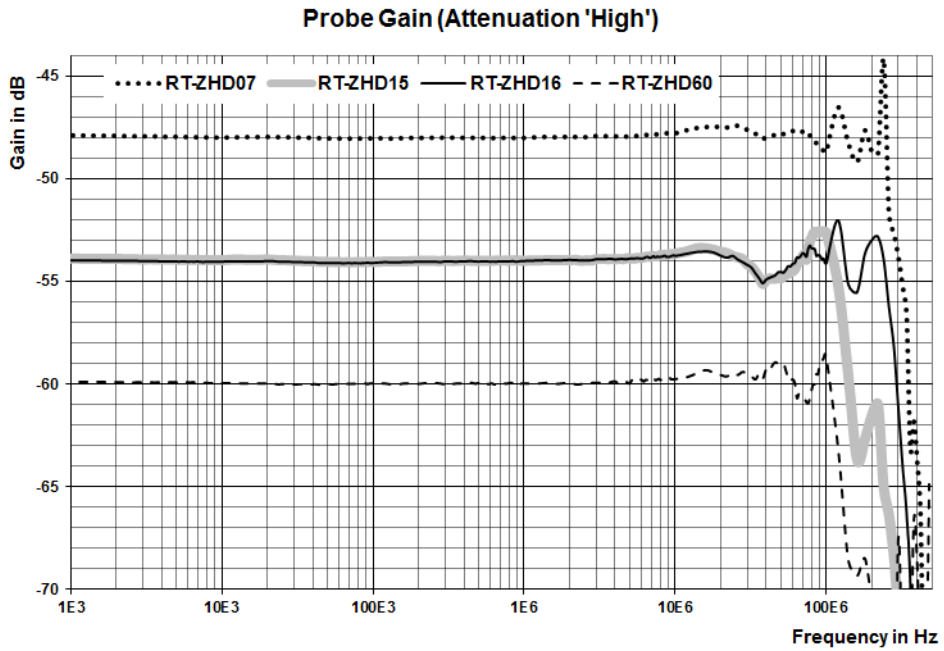

Figure 4-3: Amplitude frequency response of the R&S RT-ZHD (Attenuation 'High')
- Specifies the maximum frequency at which a purely sinusoidal signal is still transferred at 70 % (-3 dB) of its amplitude, see Figure 4-3.